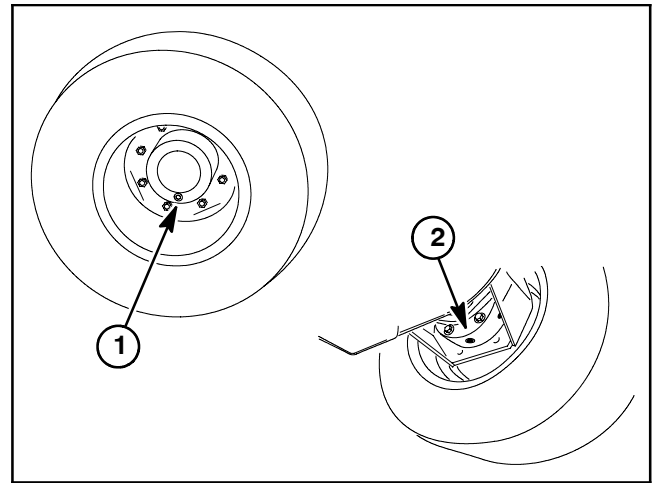

Figure 2
2. Drain oil from planetary wheel drive/brake assembly (Fig. 2).
9. Make sure drain plugs are installed in brake and planetary drive assemblies (Fig. 2).